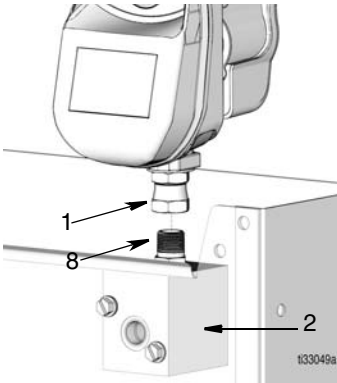

FIG. 12
5. Install the metered dispense valve in oil bar housing by connecting fitting (1) on metered dispense valve to pipe nipple (8) in manifold (2) as shown in FIG. 12. Tighten securely.